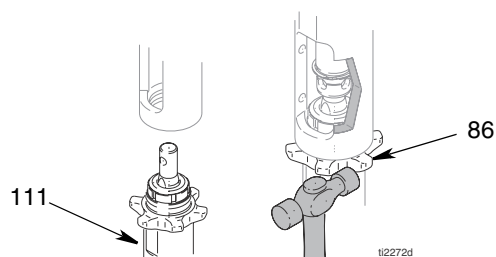

FIG. 10
- 1 (Fig 10) Screw jam nut (86) to bottom of pump (111) threads. Screw pump (111) completely into manifold. Unscrew pump (111) from manifold until pump outlet aligns with hose. Hand tighten jam nut (86), then tap 1/8 to 1/4 turn with hammer or torque to 75 ft-lb (101 N·m).